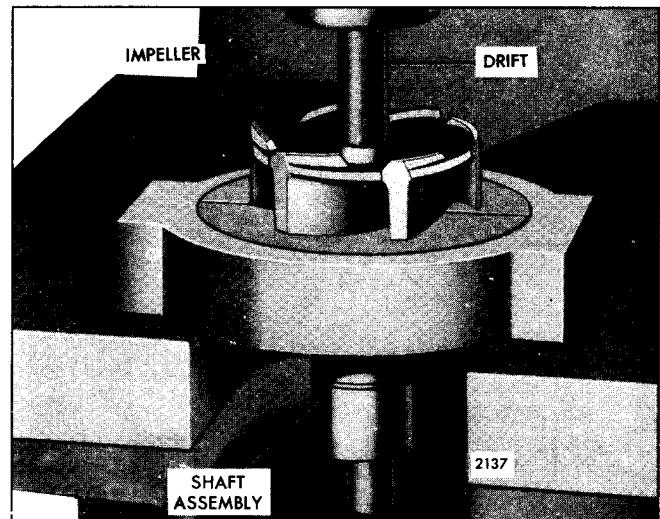

Fig. 8 – Removing Shaft from Impeller with Tools J 8329 and J 358–1
4. Use plates J 8329 and holder J 358-1 to press the shaft out of the impeller (Fig. 8).